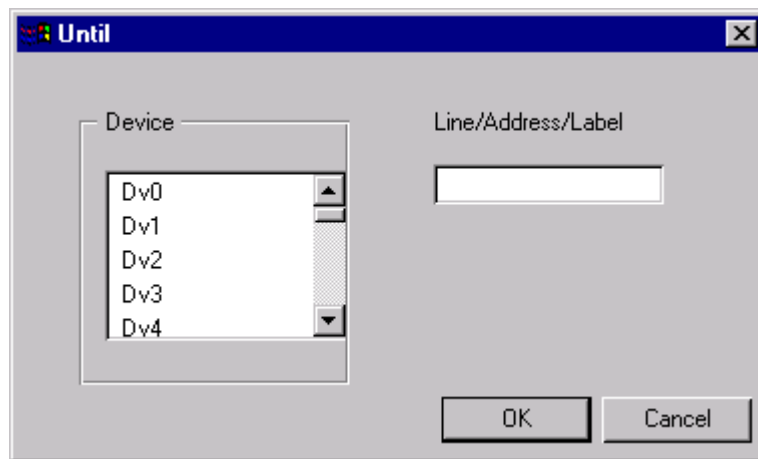

Figure 3-5. Providing an Until Condition
1. From the **Execute** menu, choose **Until**. The dialog box in Figure 3-5 appears.